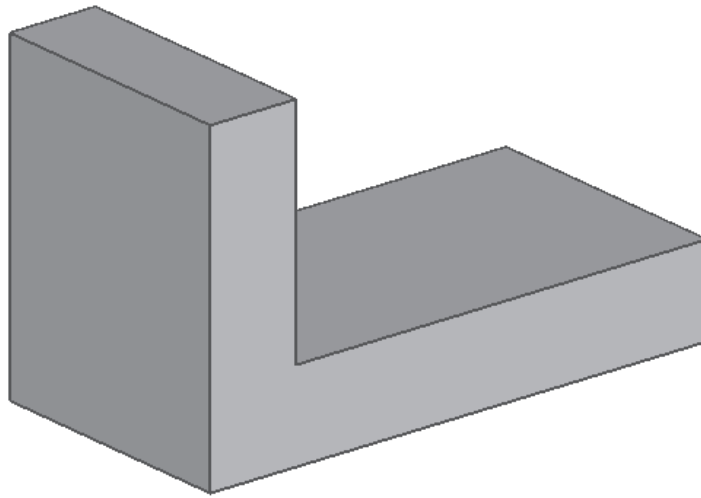

Figure 4-69 Base feature of the model
8. Choose the **OK** button to create the base feature. Turn off the display of the sketch. The base feature of the model is shown in Figure 4-69.